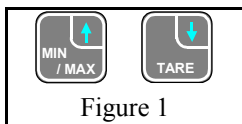

Figure 1
4. Press MIN/MAX and TARE keys at the same time. (See figure 1.)	Top line of display reads "ZEROING SOURCE:" Bottom line of display reads "REF TO ABS ZERO"
1. Press MIN/MAX and TARE keys at the same time. (See figure 1.)	Top line of display reads “ZEROING SOURCE:” Bottom line of display reads “REF TO ABS ZERO”
2. Press MIN/MAX and TARE keys at the same time. (See figure 1.)	<p>Top line of display reads "ZEROING SOURCE:"</p> <p>Bottom line of display reads "REF TO ABS ZERO"</p>